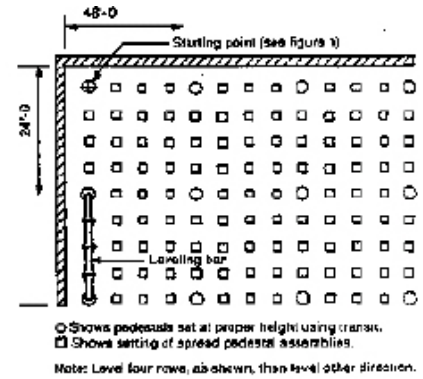

Figure 2
STEP 4. Chalk the two control lines and spread pedestal assemblies in an area approximately 48 feet x 24 feet, making sure to start at the approved starting point. (See figure 2)